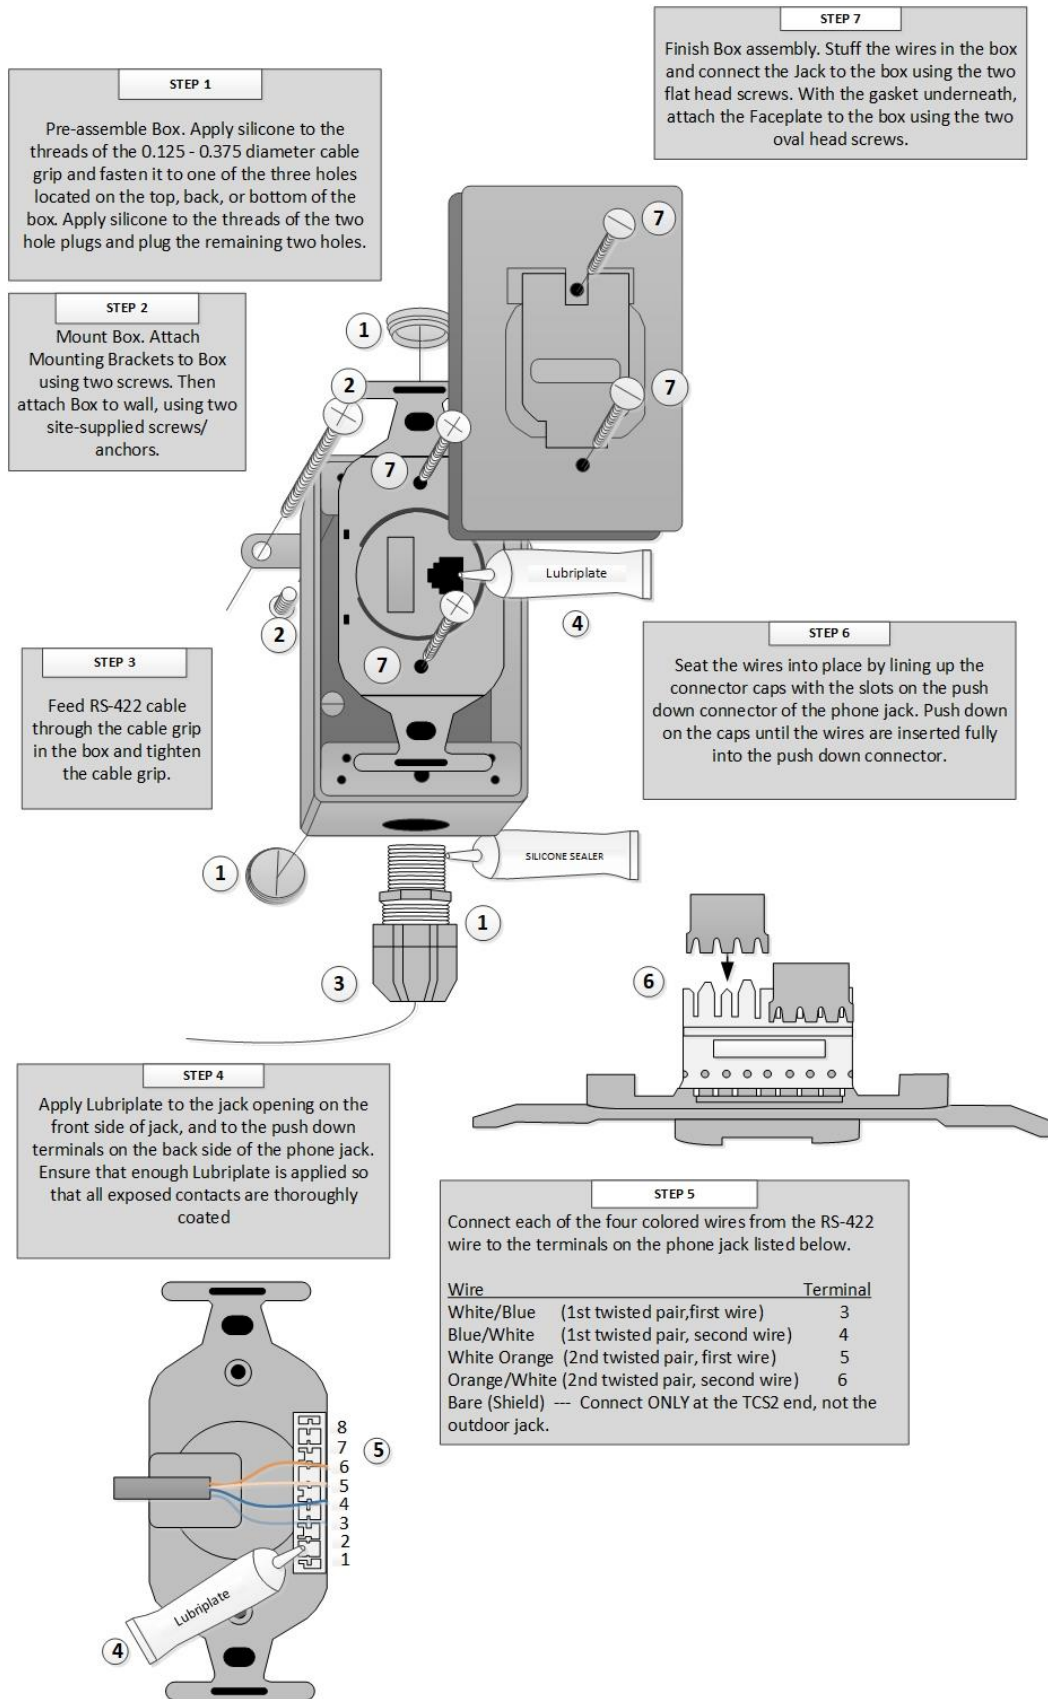

Figure 10: Outdoor Phone Jack Installation and Wiring
- All Serial communications cable must be RS-422 (shielded twisted pair). For wiring instructions, see Figure 10: Outdoor Phone Jack Installation and Wiring for details.
- See Figure 10: Outdoor Phone Jack Installation and Wiring**Note:** The provided outdoor phone jack should be used if the KPT is to be used outdoors or in the carwash tunnel.